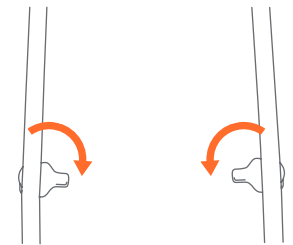

Fig. 18a
- 18)** • Fully recline seat back and turn car seat Support Tabs on the stroller frame (Fig 18a).